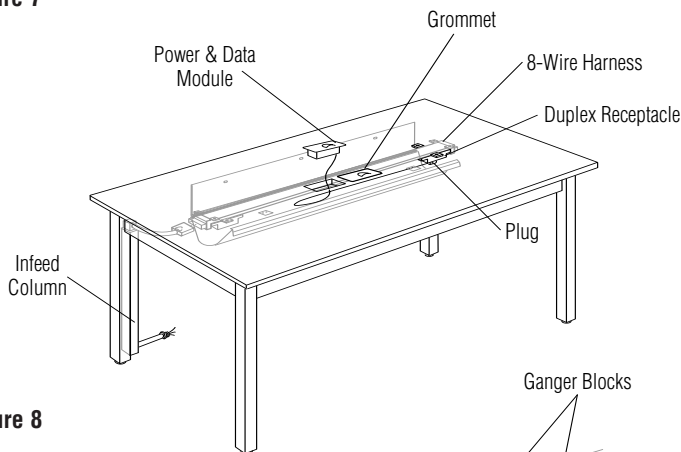

Figure 8
10. Tip table upright. Snap the power & data module (or grommet) into place with the electrical cord feeding through grommet opening. Plug the cord into the duplex receptacle (Figure 8).